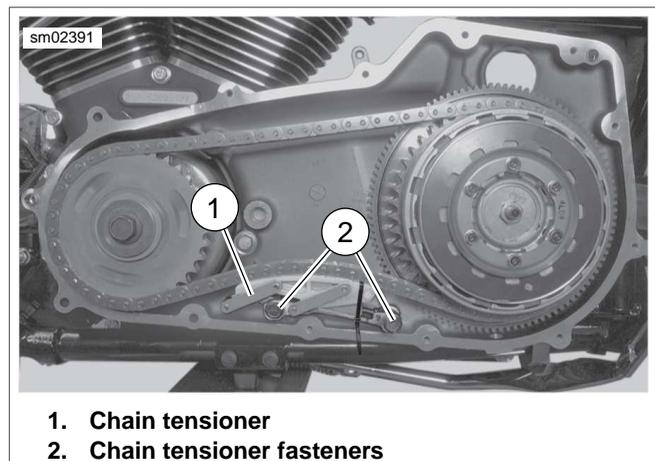

Figure 6-18. Chain Tensioner
- See Figure 6-18. Install primary chain tensioner (1) into place. Install chain tensioner fasteners (2) and tighten to 15-19 ft-lbs (20.3-25.8 Nm). Remove cable tie.